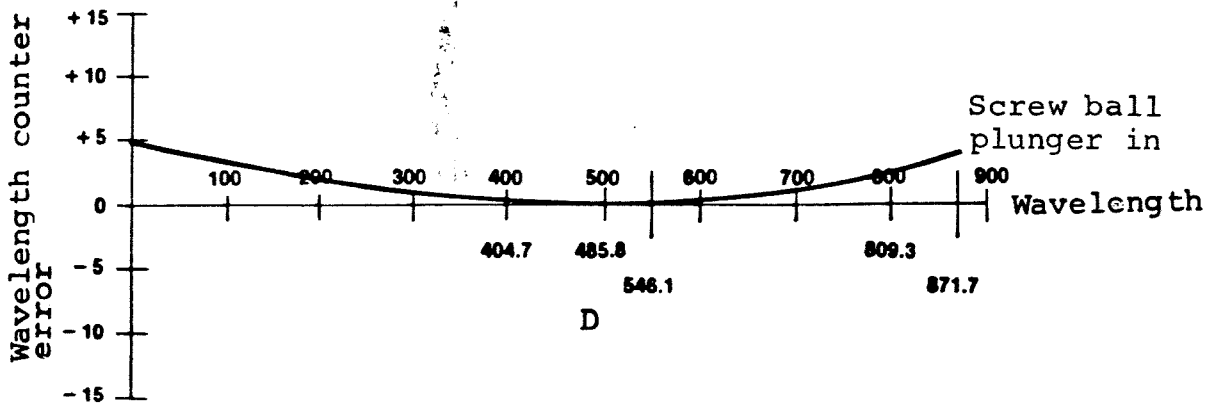

Figure 17. Wavelength calibration.
16. If the error is constant, proceed to the next section, 8.4 Counter Calibration. If the error is not constant, plot the error readings on a graph with the vertical axis labeled "Wavelength Counter Error" and the horizontal axis labeled "Wavelength", (See Figure 17). Connect the points, A straight line error plot indicates that the problem is in the sine arm adjustment, and you need to repeat this calibration procedure starting at step 9. A curved error plot indicates that the problem is with the ball plunger adjustment, and you need to repeat this procedure starting at step 5.